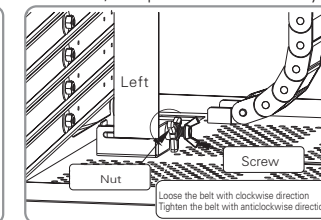

Figure16
- Left height adjustment (Figure 16), firstly unscrew the left adjusted nut from middle to left, then you can release or tighten belt by turning left screw. Turning clockwise to release belt and would lower height of left side. Inversely, turning counterclockwise to tighten belt and upper height of left side.